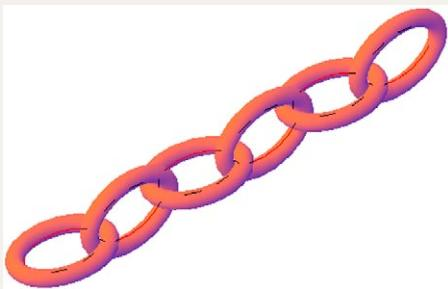

Fig. 13.17 Exercise 3
3. Each link of the chain shown in Fig. 13.17 has been constructed using the tool **Extrude** and extruding a small circle along an elliptical path. Copies of the link were then made, half